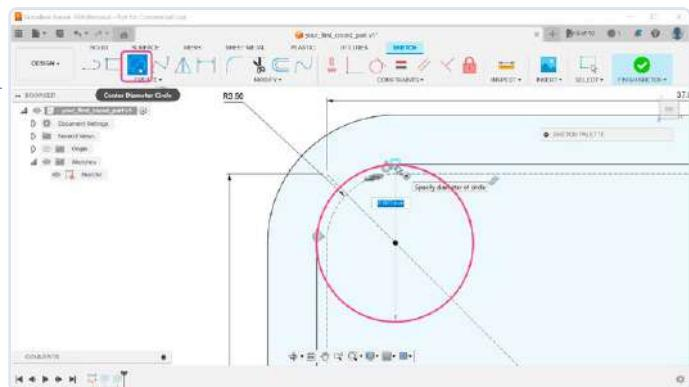

Figure 9: Positioning the center for one of the supports.
9) The module should sit on supports of some kind, and it would be nice if those supports had holes for screws. For these supports, we need another sketch, but, instead of creating a new one, we can reuse the one we have as well. To return to editing mode, double-click the *Sketch* item in the browser window. The holes in the PCB are 3 mm in diameter; we need to make the supports bigger than that. For ease of manufacturing, we can even make them big enough to touch the walls of the enclosure. Select the *Center Diameter Circle* tool from the toolbar and draw a circle in the top-left corner — large enough to touch the inner shell (8 mm diameter) (**Figure 9**).